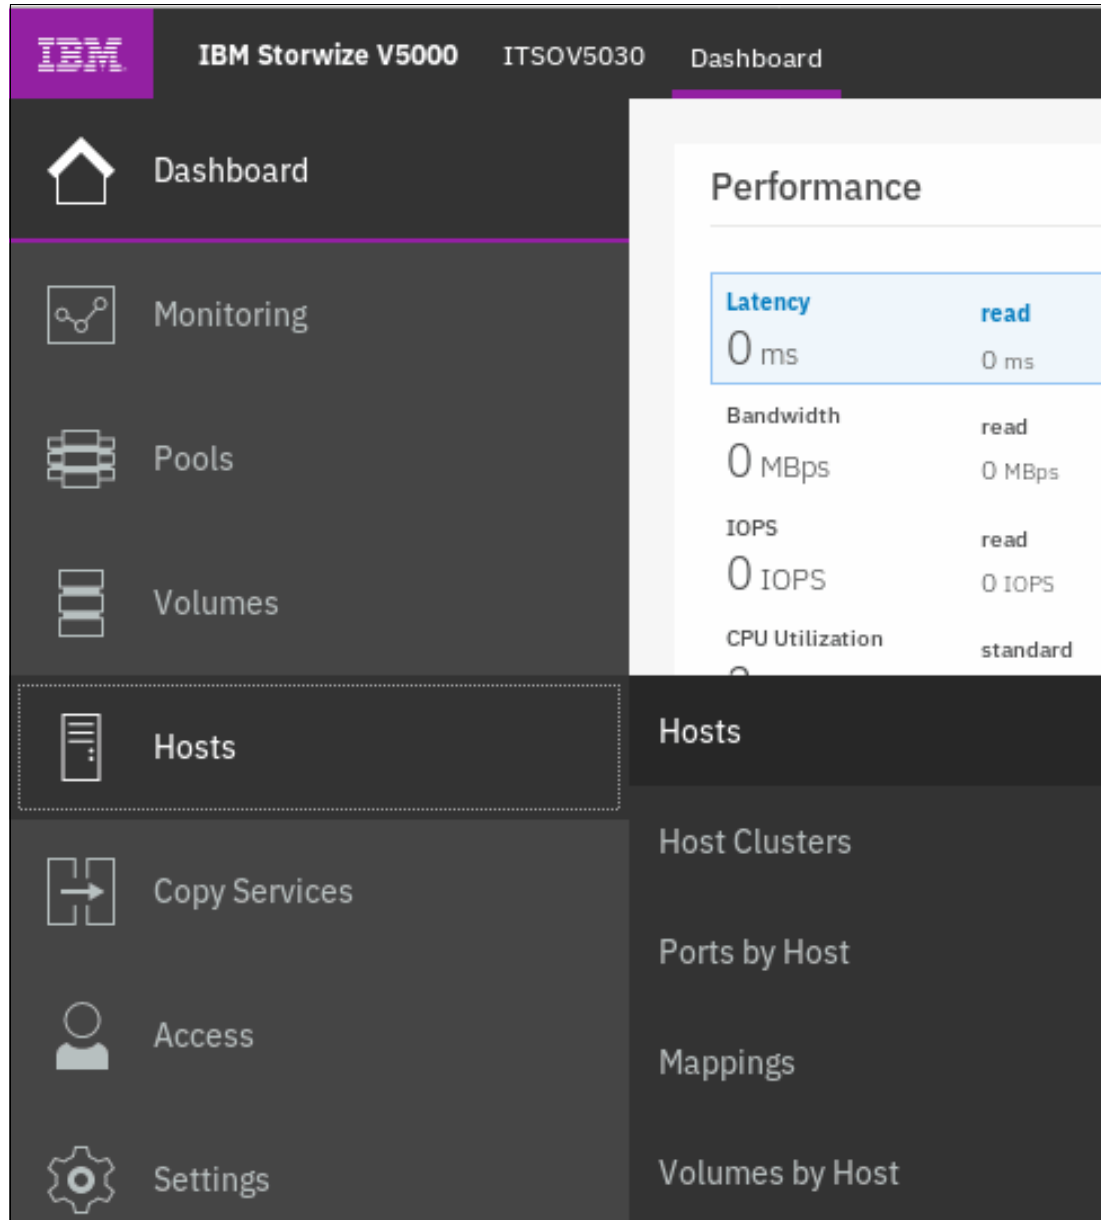

Figure 5-106 Hosts window
1. Select the **Hosts** option under the **Hosts** section on the main window, as shown in Figure 5-106 on page 302.